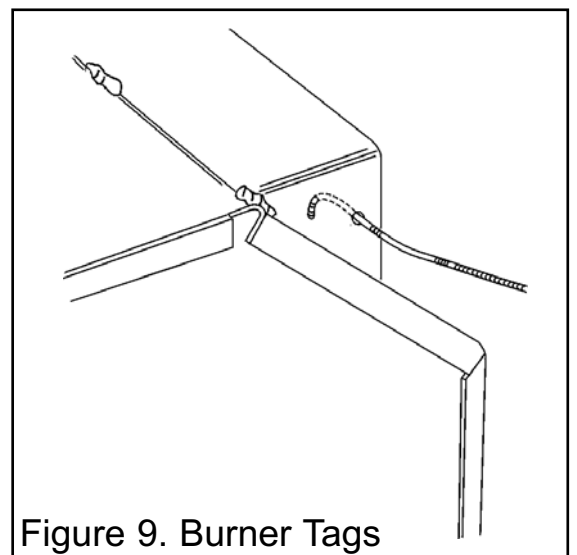

Figure 9. Burner Tags
5. The convector box has a debris deflector. There are two small holes in both sides of the debris deflector. Insert one end of each cable (one cable each side) through the lower of the two holes and return the end through the upper of the holes (See figure 9). Give the cables a pull so that they are secure.